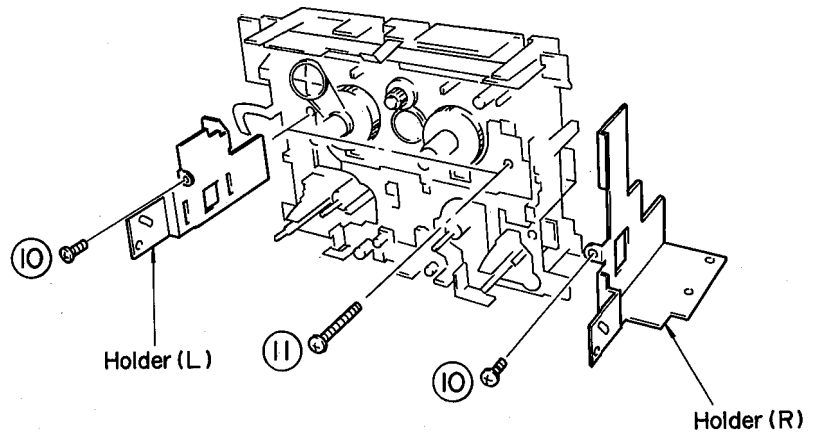

Fig. 8
- b. Remove both (right and left) the holder by removing the 2 screws (⑩) in fig. 8.
- c. Remove the 2 screw (⑪) in fig. 8.